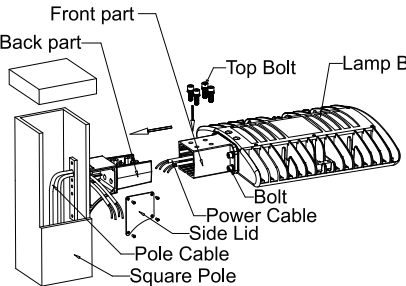

Figure 11-1
1. Take off the top bolt on IM bracket. Open side lid on the back part after take IM bracket apart into the front part and the back part. Let the power cable go through the front part of the IM bracket. Fix the front part to the end of lamp body with bolt. Let the pole cable go through the back part of the IM bracket. Fix the back part of the IM bracket to the pole with bolt. (Figure 11-1)